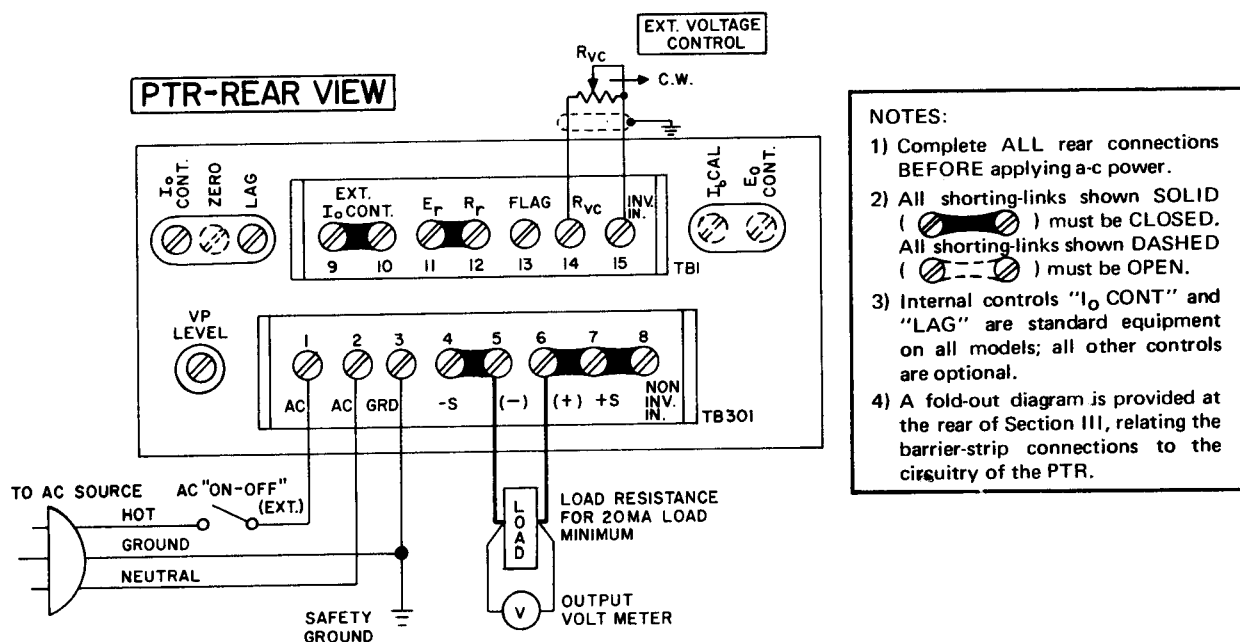

FIG. 2-4 OVERVOLTAGE CROWBAR SETUP CIRCUIT.
- Connect PTR supply and external components as shown in FIG. 2-4.
- Locate "VP LEVEL" control (R314) to the left of the lower barrier-strip in the rear (refer to FIG. 2-4). Turn completely clockwise.
- Adjust the desired output voltage *at which the overvoltage crowbar is to trigger* (**NOT** your operating voltage) by means of the "EXT. VOLTAGE CONTROL." Refer to FIG. 2-4. Make certain, this control is connected *exactly* as shown; i.e., *clockwise* rotation should cause an *increase* in output voltage.